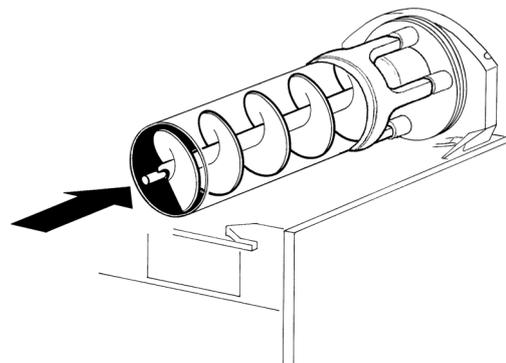

figure 13
- Insert the auger into the evaporator taking care to accompany it to the end so as to prevent it from hitting against the rear wall (see figure 13).